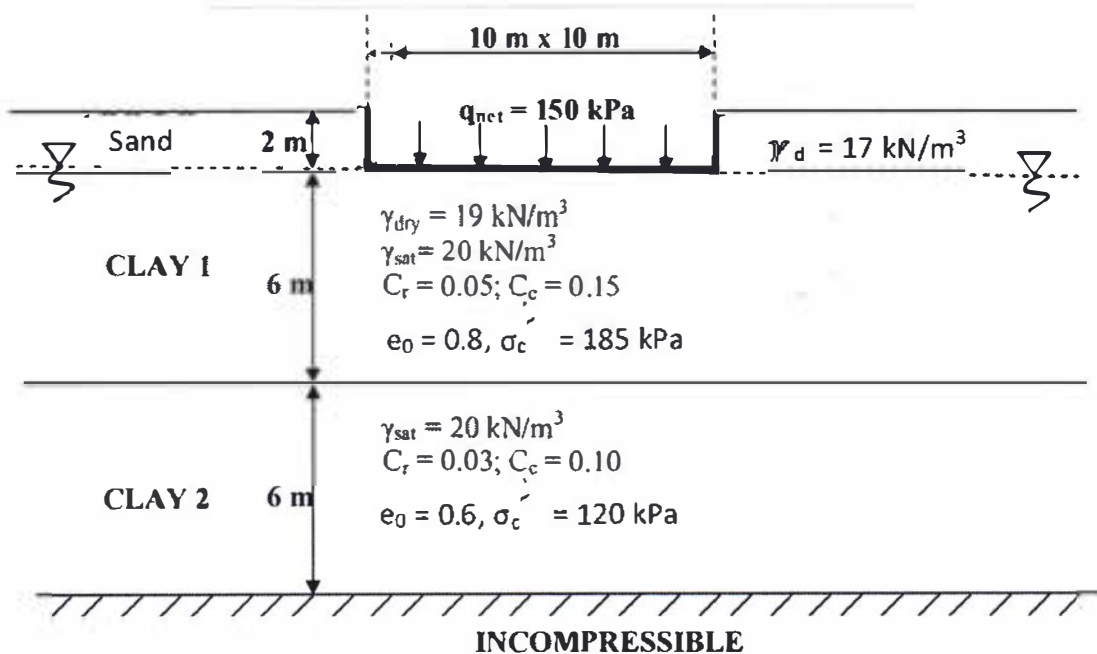

Fig. 2b
- (c) Estimate the primary consolidation settlement of upper 1 m of both the clay layers (Fig. 2b) due to the foundation load and compare the results. Use 2:1 slope for calculating  $\Delta\sigma$ . 11